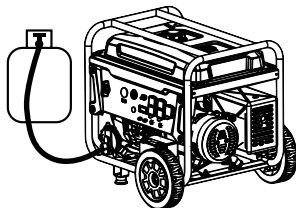

Figure 17 - Connect Propane Tank
- Make sure LPG hose is safely secured from generator to propane (see Figure 17).